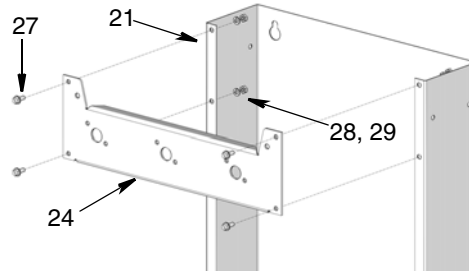

**FIG. 5**
1. Attach dispenser wrapper (21) to drain pan (22) using screws (27), lock washers(28) and nuts (29) and existing holes. Tighten nuts securely. (See FIG. 5).